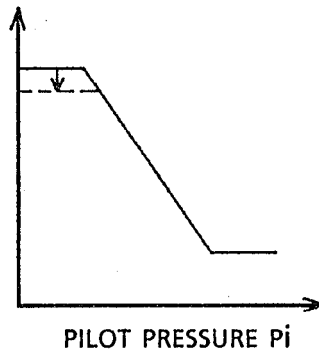

Fig. 9 Adjusting the max. discharge flow
Adjust the maximum flow by loosening hexagon nut (808) and by tightening stop screw (954) (or loosening it). Tightening stop screw (954) decreases the delivery rate, as indicated in Fig. 9.